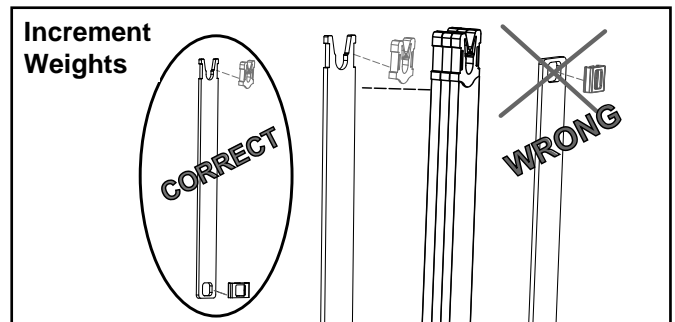

Figure 12
- I. Reinstall the six increment weights that were removed in step 6B. See Figure 12.